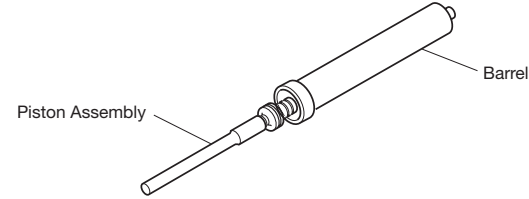

Figure 4 - Removing Piston Assembly from Barrel
- Remove piston assembly from barrel (see Figure 4).